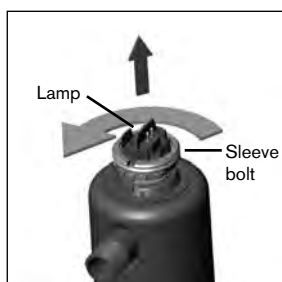

Figure 3
6. Holding the sleeve bolt, unscrew the lamp/sleeve assembly and carefully remove it from the reactor (Figure 3). Handle assembly by ends only. If required, a wrench can be placed on the two flat sides of the sleeve bolt. Do NOT apply the wrench to the lamp end, which sits within the sleeve bolt and protrudes 1/2".